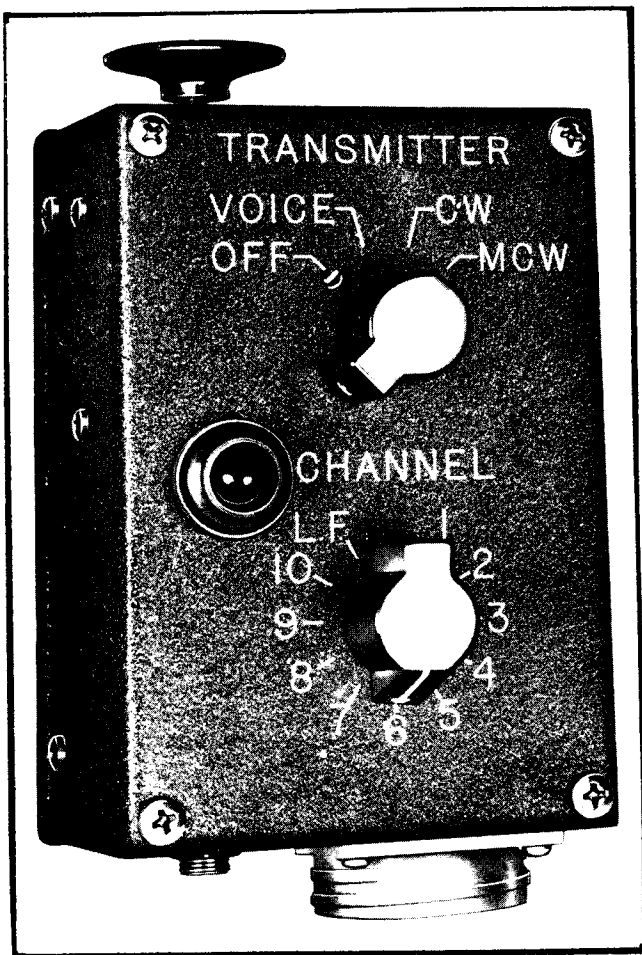

Figure 1-5. Control Unit C-87/ART-13
(2) Table 1-4 shows typical power input requirements for a supply voltage of 28 volts d-c. Data is shown for different types of emission and for full or reduced power INPUT (reduced power INPUT being obtained by operation of barometric switch at altitudes above 20,000 to 25,000 feet). All measurements made with power amplifier loaded to rated P.A. plate current.
c. CONTROL UNITS.—Control Unit C-87/ART-13 (see fig. 1-5) used with Radio Transmitting Set AN/ART-13A and a modified version of this unit (see fig. 1-1A) used with Radio Transmitting Set AN/ART-13B, provide a means of operating the transmitter from a remote position. These two controls differ only by the addition of a toggle switch in the modified version. One knob on each unit permits the power supply to be turned